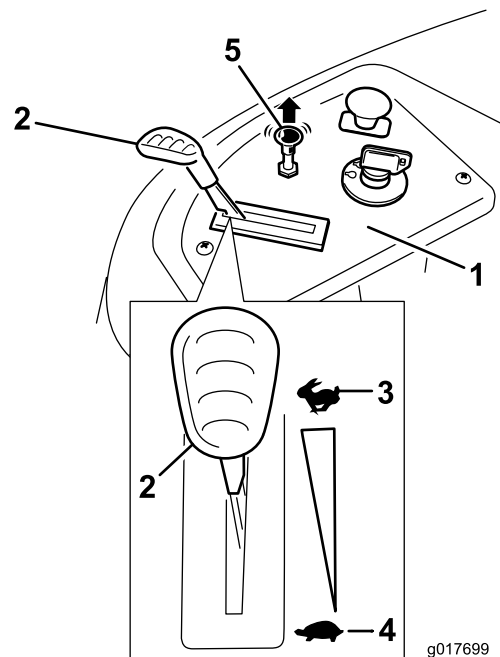

Figure 13
4. Pull up on the Choke control before starting a cold engine (Figure 13).
2. Move the throttle lever to between the Fast position (Figure 13).